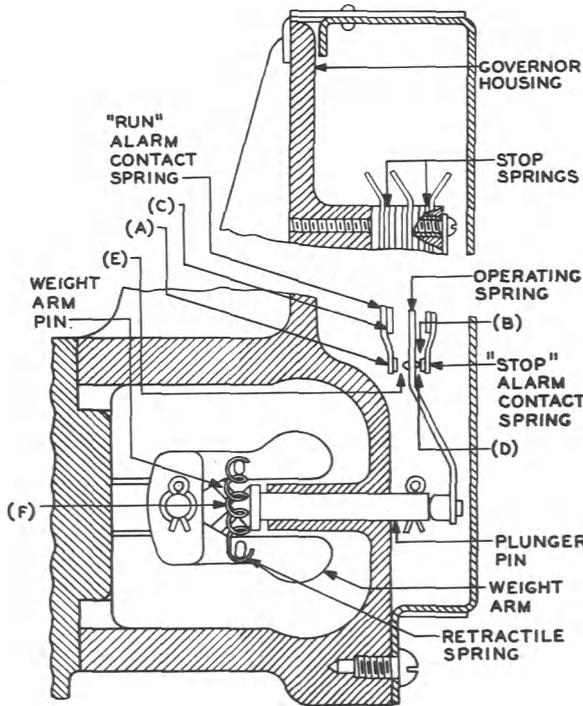

Fig. 9 - Cast Weight-type Alarm Mechanism
(a) Fig. 9(A) - With the motor running up to speed, the pressure between the run alarm contact and the operating spring contact shall be
(b) Fig. 9(B) - With the motor stopped the pressure between the stop alarm contact and the operating spring contact shall be
2.20 Spring Tension: Fig. 9(C) - With the run alarm contact open, the contact spring shall rest on its associated stop spring as close as practicable to the end of the spring nearest the contact with a tension of
2.21 Contact Follow: Fig. 9(D) - With the motor stopped and with the end play of the motor worm taken up toward the motor coupling, there shall be a follow of the "stop" alarm contact of 0.005 inch.
(a) Fig. 9(E) - With the motor running up to speed, the separation between the stop alarm contacts and the operating spring shall be 0.010 inch.
2.23 Plunger Pin Pressure: Fig. 9(F) - With the motor running up to speed, the plunger pin shall not touch the pins on the weight arms with sufficient pressure to cause it to rotate.